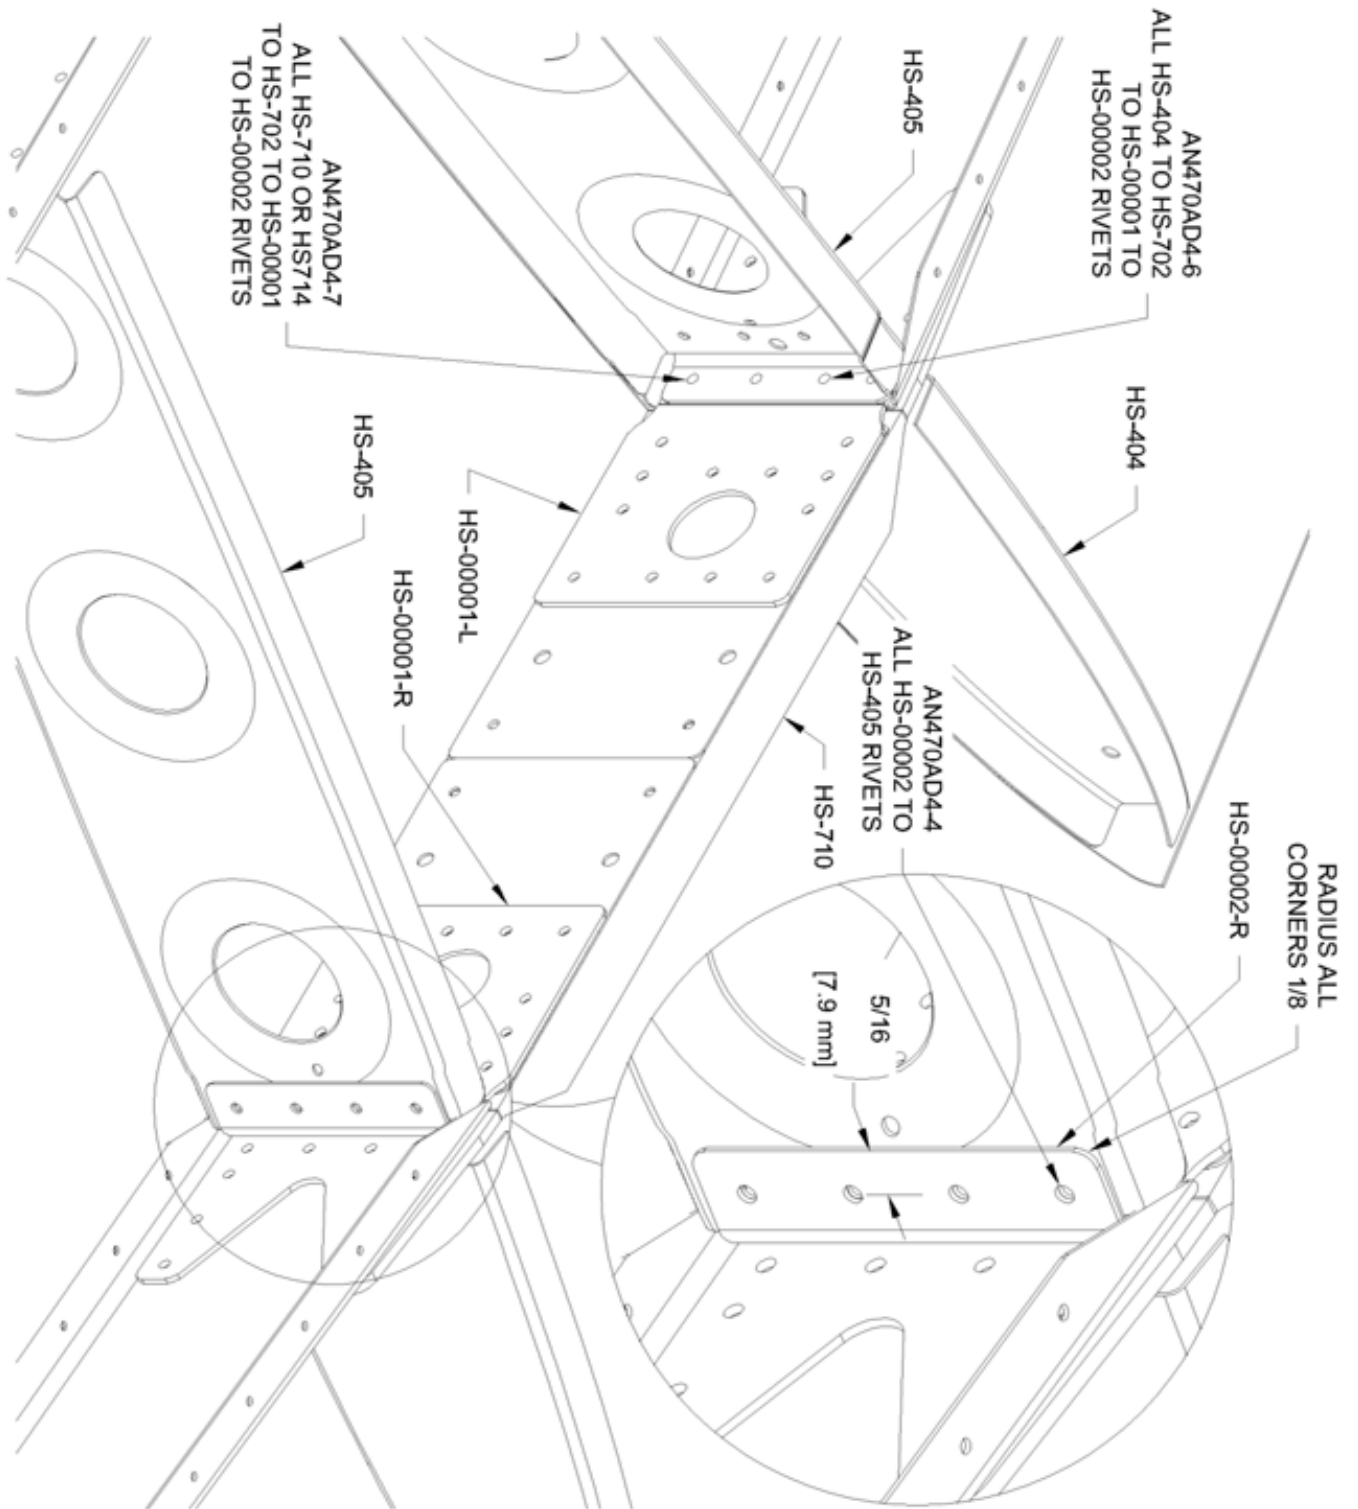

FIGURE 10: RIVETING THE RIBS TO THE SPAR
Step 23: Clamp the longer flange of a HS-00002 Rib Flange Angle to the front edge of the HS-405 Main Rib through the forward lightening hole in the rib using 2 1" C-clamps, with the clamps positioned to allow drilling access to the 4 pilot holes in the rib. Center the angle vertically about the pilot holes in the rib that were added in Step 12. See Figure 10.
Step 29: Rivet the rib flange angles to the HS-405-L and -R Main ribs as called out in Figure 10.
Step 31: Cleco then rivet HS-404 Nose Ribs and HS-405 Main Ribs to the front spar of the Horizontal Stab. Assembly. See Figure 10.